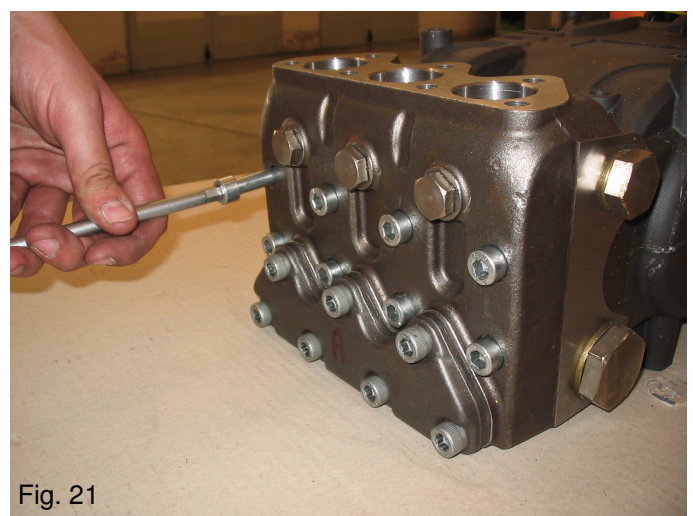

Fig. 21
- A) Remove the fluid end by loosening the 8 bolts (see Fig.21).